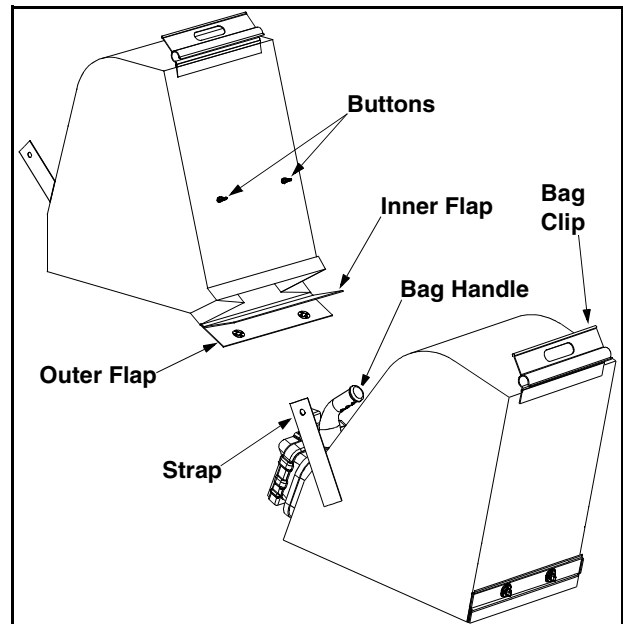

Figure 9
- Unhook bag straps from the lower handle and unsnap bag clip from top of the lower handle. See Figure 9.
- Twist the two buttons on the back of the bag to unlock and empty contents. See Figure 9.